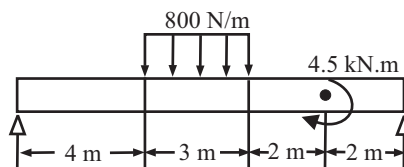

Fig 3
Q.3. Determine the SF and BM diagrams for the simply supported beam shown in fig 3. Determine the maximum bending moment.